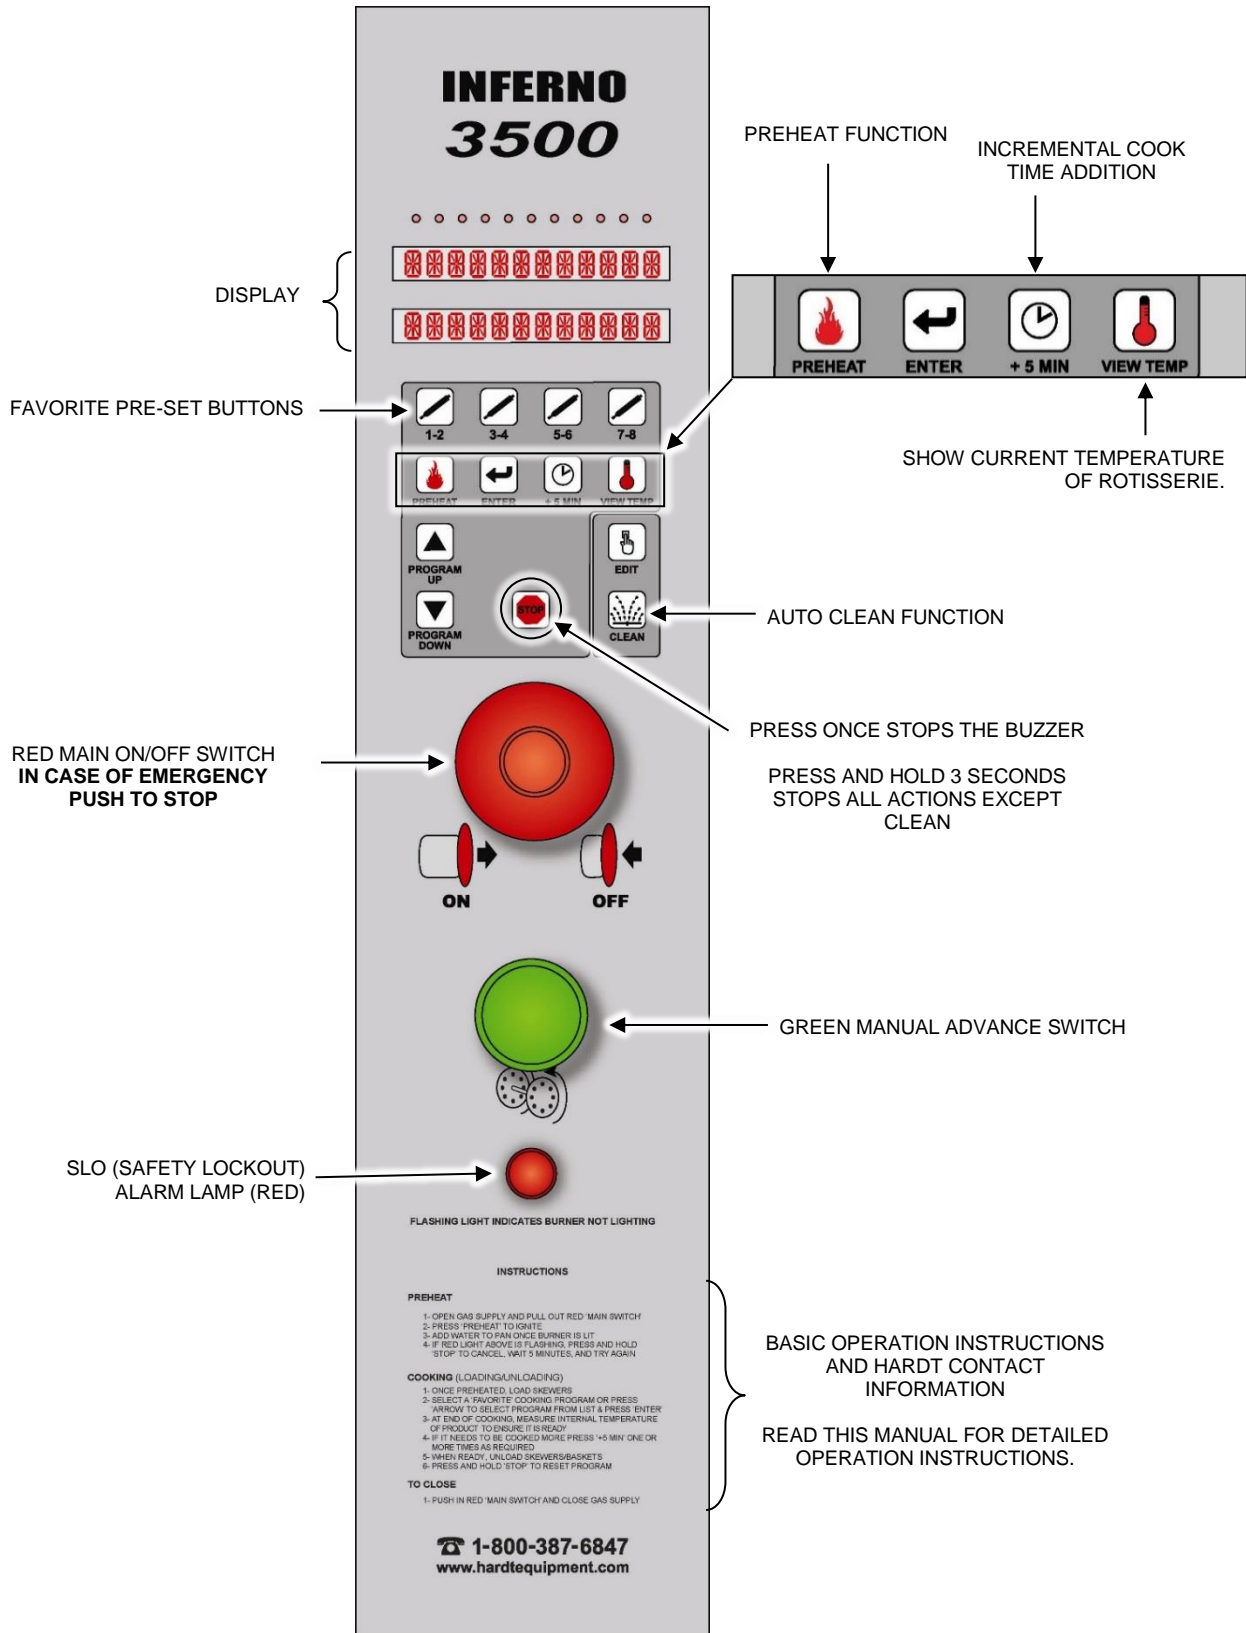

Figure 3-4
4. Select a single “FAVORITE PRE-SET” button indicated by either  on the keypad (see Figure 3-4 on page 9) or press an arrow (“UP”  or “DOWN” ) to select another program from the saved list. To select a program, press “ENTER”  on the keypad.
Open the door to shut off burner and to stop the drive rotation. Use the green Manual Advance Switch (as indicated in Figure 3-4 on page 9) to position sockets as required.
- In case of a *Safety Lock Out* (gas burner does not light), the red SLO (Safety Lockout) alarm lamp will flash continuously (shown in Figure 3-4 on page 9).